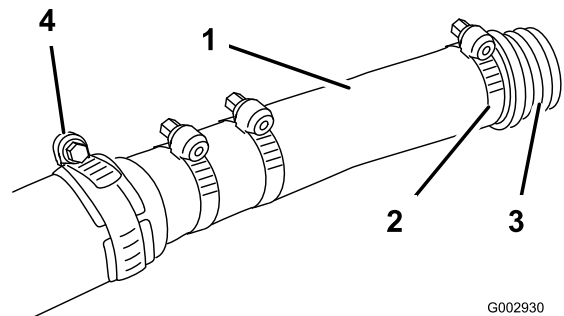

Figure 11
5. Slide a large hose clamp (removed from the hose in step 2) over the hose and install the fitting all the way into the hose, securing it with the hose clamp (Figure 11).